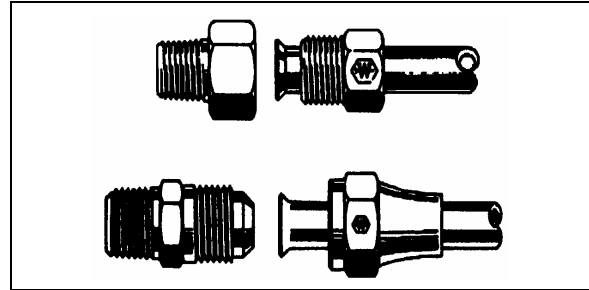

FIGURE 48: HOSE FITTINGS 12053
**45° Flare and Inverted Flare:** Tighten assembly with a wrench until a solid feeling is encountered. From that point, tighten 1/6 turn (Fig. 48).